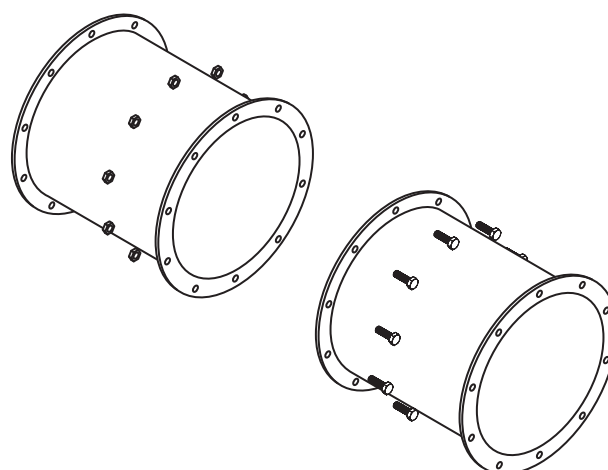

Figure 2
- (a) Explain with reference to preliminary, production and promotional graphics, the purpose of **Figure 1** and **Figure 2**.